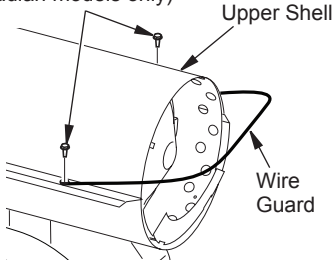

Figure 2 - Attaching Wire Guard
1. Remove two screws securing front of upper shell to lower shell (see Figure 2).